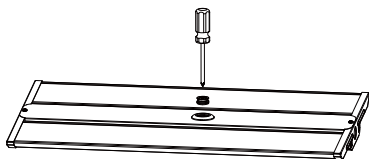

Figure 12
Step1.Use a screwdriver to remove the 1/2 plug from the sensor; (Figure 12)